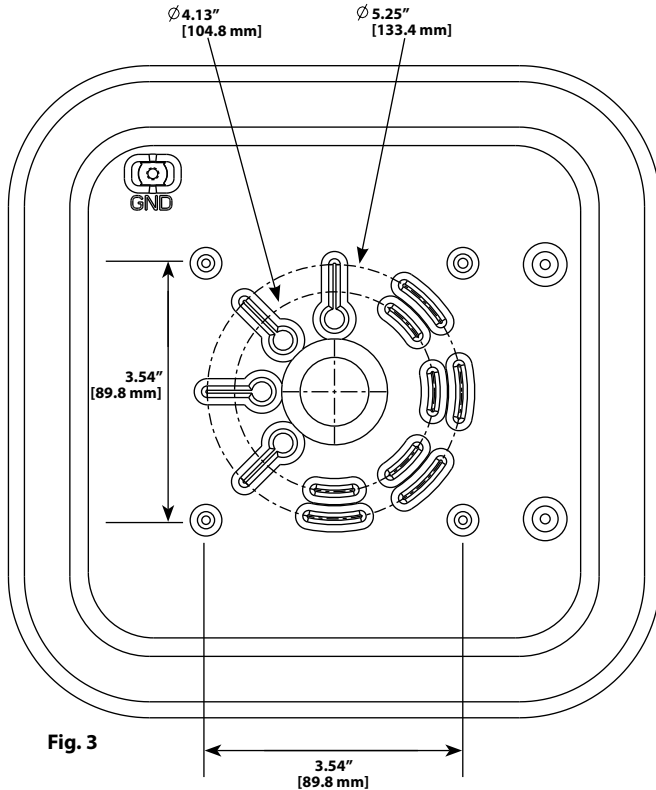

Fig. 3
2. Mount **Junction Box** to ceiling by knocking out (4) **Knock Out Locations** as marked in Fig. 3. Use the appropriate mounting hardware for the mounting surface. May alternately be mounted to recessed junction boxes.